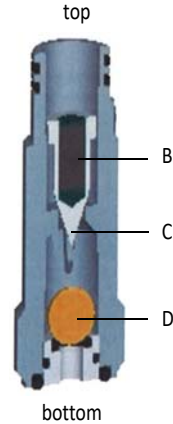

Fig. 2 Cross-section of the check valve housing
- 5 Carefully pull the complete check valve housing (A) down and out.
- 6 Turn the check valve housing upside down and catch the flow ball (B) or if the ball is jammed, release it with a slight knock.
- 7 Now use a suitable blunt tool to push out the ball seat (D) and glass ball (C) against the direction of flow.
- 9 During reassembly, make sure that the ball seat and ball are correctly positioned (Fig. 2).